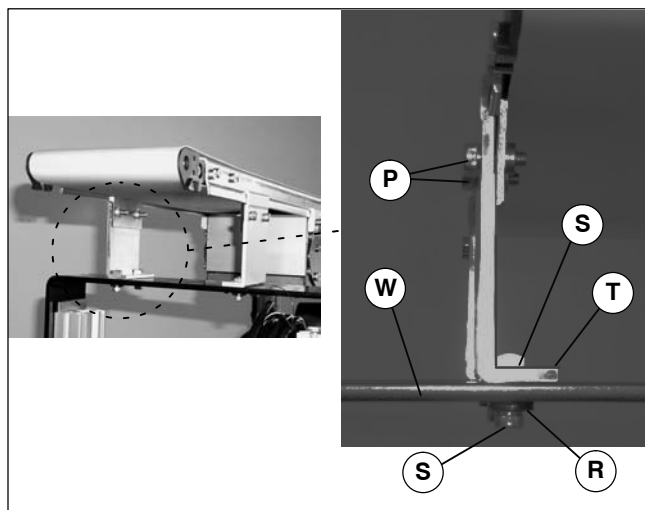

Figure 11
6. Attach stand mounting bracket (T of Figure 11) to stand (W) with two screws (Q), hard washers (R) and square nuts (S). Tighten screws (Q) to 80 in-lb (9 Nm).